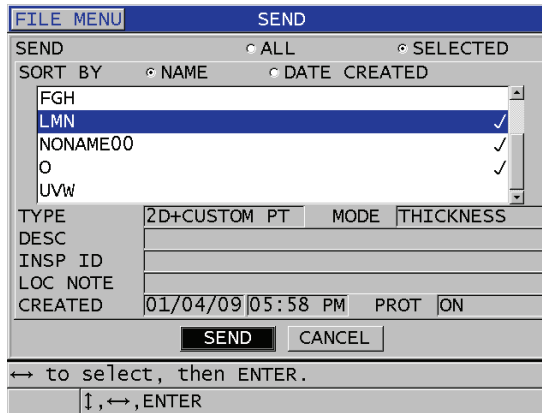

Figure 14-3 Selecting a file to send
4. In the **SEND** screen (see Figure 14-3 on page 247):